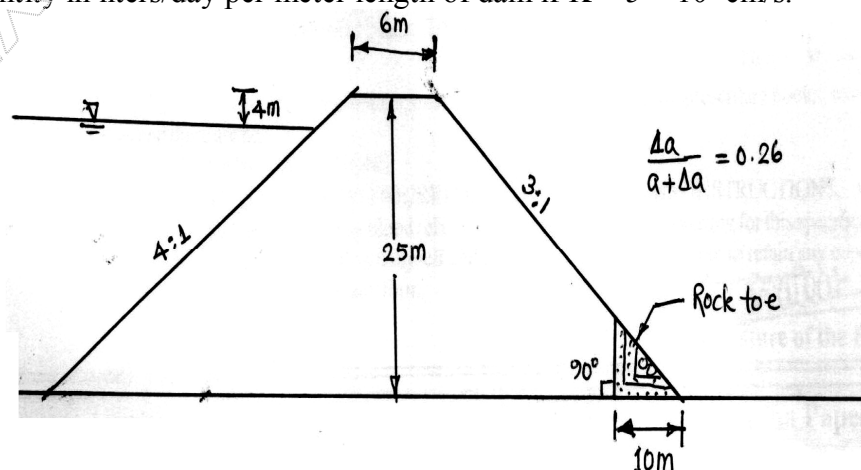

Fig Q3(b)
- b. Draw the phreatic line for the homogeneous dam section shown in Fig Q3(b) and find the seepage quantity in liters/day per meter length of dam if $K = 5 \times 10^{-4}\text{cm/s}$. (12 Marks)